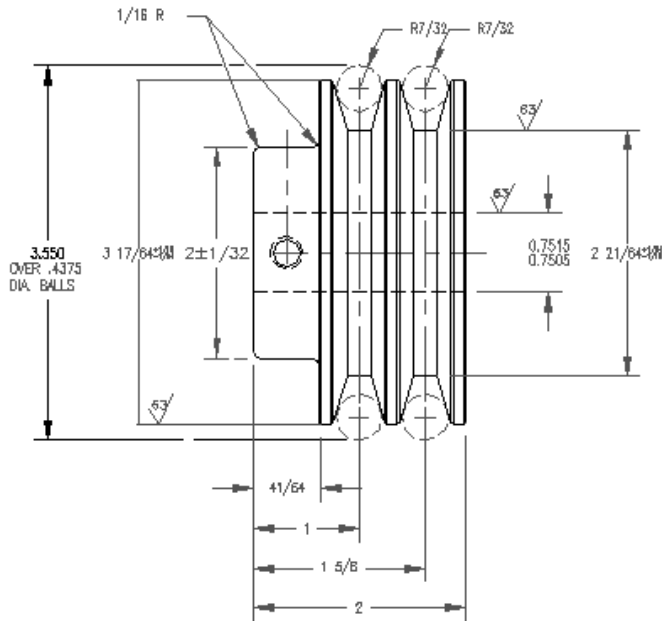

**Figure 14-31:** The model with added radius and baseline dimensions.
**5.** Save your drawing. It should look approximately like Figure 14-31.